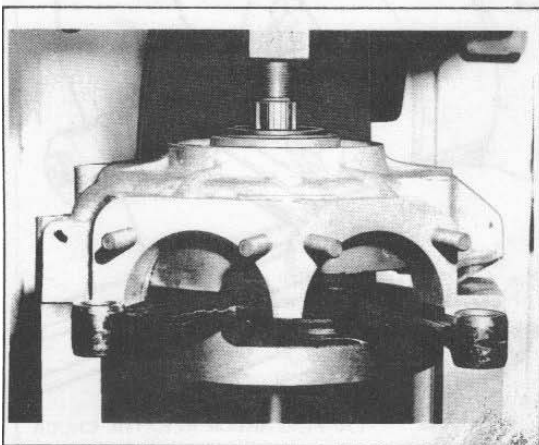

Figure 3-38. Pressing Flywheels Out of Crankcase
5. Position crankcase with gearcase (right side) up. Tap crankcase with rawhide or soft mallet to loosen top half. Lift right crankcase half (1) off pinion shaft main bearings. Remove spiral lock ring (2) from pinion shaft with tip of screwdriver. Lift bearing washers (3 and 5) with bearings and bearing retainers (4) off pinion shaft.
6. Mount flywheel and left case assembly on press table supporting case on parallel bars (Figure 3-38) and press on end of sprocket shaft with arbor press until flywheel assembly (8) drops out, freeing sprocket side bearing half (9), spacer (6) and spacer (10). Remove seal (7).